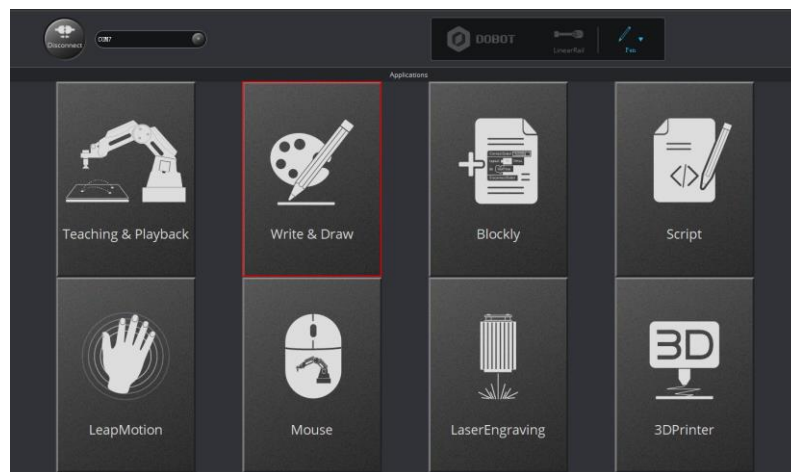

Figure 5.68 Click Write & Draw
Step 1 Click **Write & Draw** on the **DobotStudio** page, as shown in Figure 5.68.